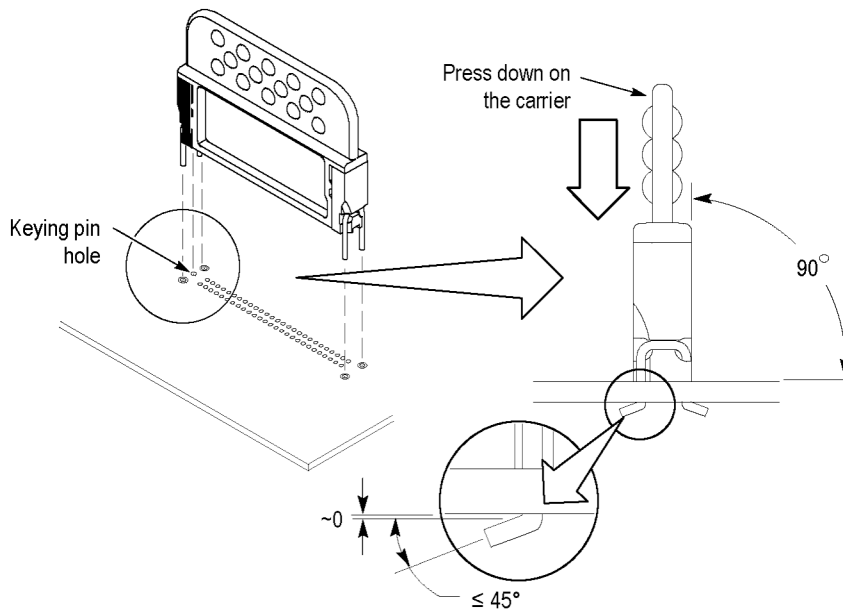

Figure 27: Installing the retention posts on the PCB
1. On the retention post/carrier assembly, locate the black retention post (the post with the keying pin) and align it to the keying pin hole on the PCB. (See Figure 27.)